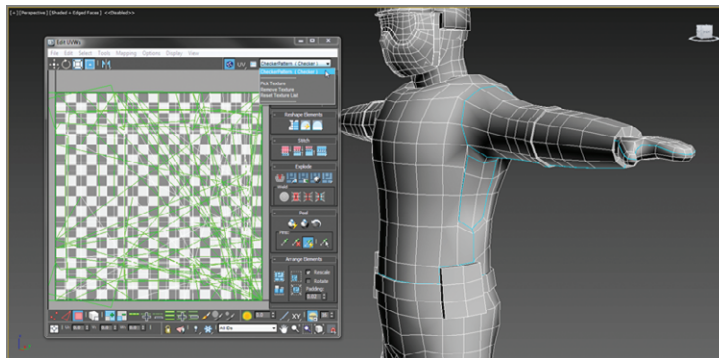
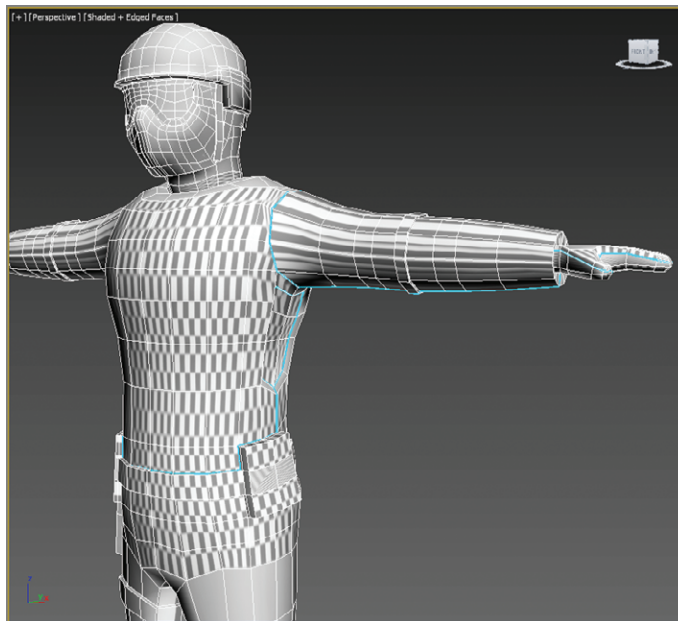

FIGURE 11.9 Choose CheckerPattern (Checker) from the drop-down list.
FIGURE 11.10 A low-contrast checker pattern is added to the soldier model.
14. In the top right of the window, in the drop-down menu, choose CheckerPattern (Checker) from the list, even if it already appears in the menu, as shown in Figure 11.9. This will apply a low-contrast checker map to the soldier, as shown in Figure 11.10.